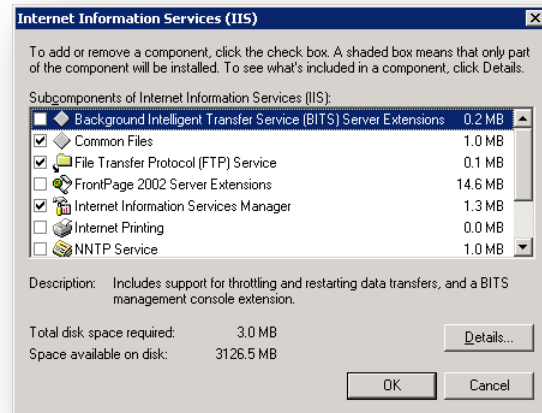

Figure 41 – Internet Information Services (IIS)
4. Under the “Application Deployment” node, check the “ASP.NET” option. When the “Add Roles Wizard” pop-up appears, click “Add Required Role Services”. See Figure 41.